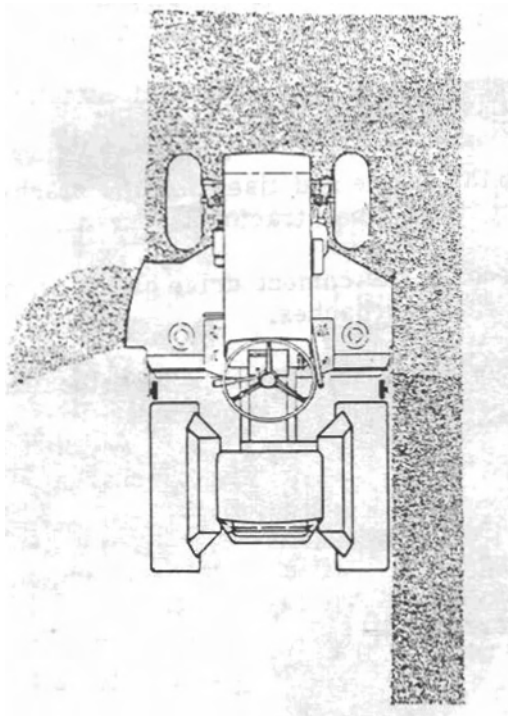

Figure 2.
4. Figures 2 and 3 illustrate two systems for mowing. If the grass is high or heavy, always mow to throw the clippings away from the uncut area, Figure 2. If the grass is light and more thorough mulching is desired, discharge the clippings toward the center of the uncut